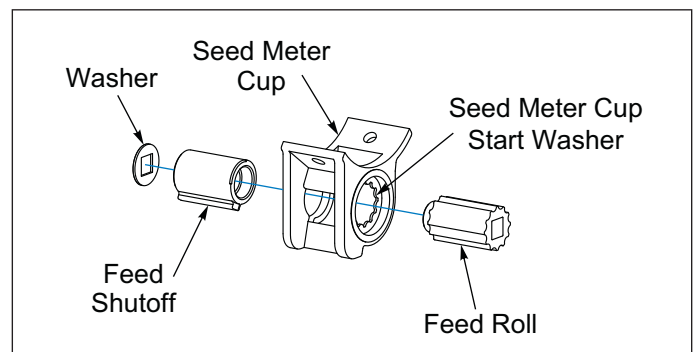

Figure 5-10: Small Seed Meter
3. Individual Seed Meter Adapters with Seed Meter Cup attached or Seed Meter Cups can be adjusted as required. Adjustments can be made by loosening the 1/4-20 x 5/8 Machine Screws that mount the Seed Meter Adapter to the Seed Box and the 1/4-20 Nut that attaches the Seed Meter Support to the Seed Meter Cup. Adjust the affected Seed Meter Adapter(s) so that the Feed Cut-Off Meter is against the Meter Cup Star Washer (closed). If unable to achieve complete Feed Cut-Off closure against the Star Washer, adjust the Seed Meter Cup that is attached to the Seed Meter Adapter by loosening the 1/4-20 x 1 Machine Screws. Be sure the Feed Roll Meter stays engaged in the Meter Cup Star Washer. **See Figure 5-10.** After adjustments have been made, seal the Seed Meter Adapter(s) to the Seed Box with clear Silicone.